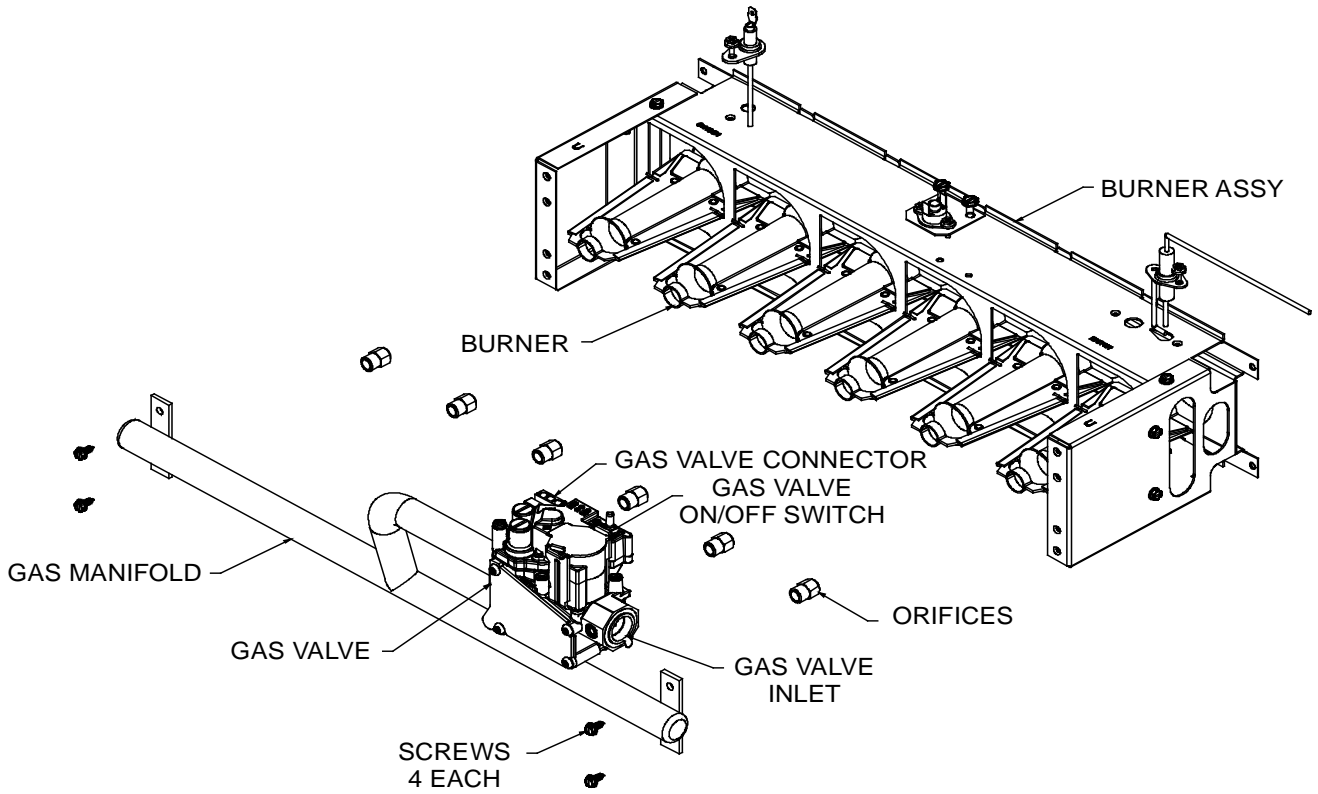

FIGURE 1
7. Remove the (4) sheet metal screws which fasten the gas manifold to the burner box. See Figure 1 for component location.